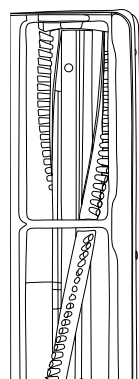

Fig. 2
6. Replace the bottom plate by hooking the front end of the plate into the two ribs on the front end of the brush head housing. (Fig. 2)